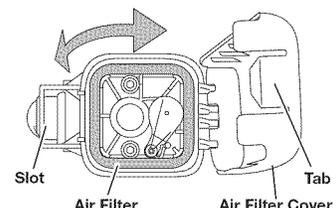

Fig. 18
1. To open the air filter cover, push the tab on the left side of the cover inward and pull the air filter cover slightly out and to the right (Fig. 18).
2. Remove the air filter (Fig. 18).
7. To reinstall the air filter cover, position the hooks on the right side of the air filter cover into the slots at the right side of the back plate (Fig. 18).
8. Swing the cover to the left and press closed so the air filter cover tab snaps into the slot on the back plate (Fig. 18).